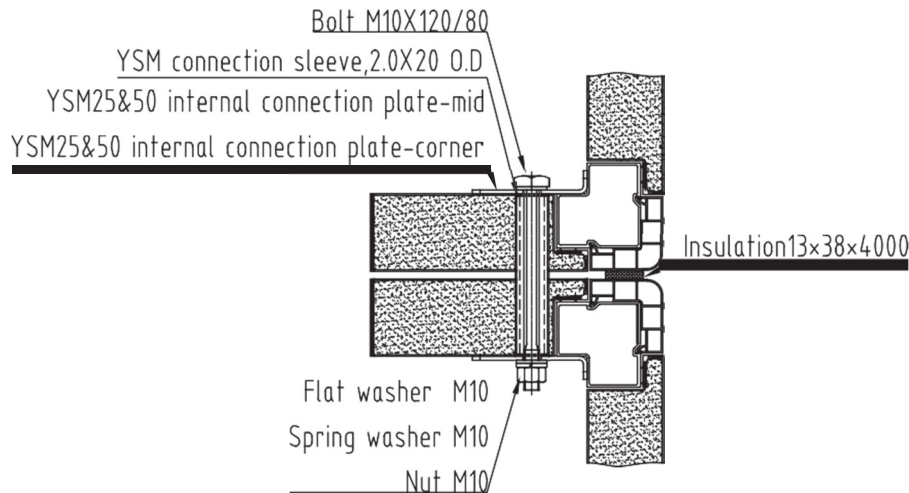

Figure 3.8 Internal Connection between Upper and Bottom Splits
- 6) Refer to figure 3.8, put connection sleeve into the hole which thread the panels of upper and bottom unit, then fix internal connection plates to side profiles or mullions of the upper& bottom tier splits, then fasten the internal connection plates with M10 series fasteners, connection parts list is as Table 3-3.
- 5) Mount external connectors between the bottom profile of the upper tier and the top profile of the bottom tier, find split external connection and the fastenings for split-split connection in Figure 3.8 and the part list in Table 3-4. The quantity of connectors required for a single side of the air handling unit length and width is listed in Table 3-5.